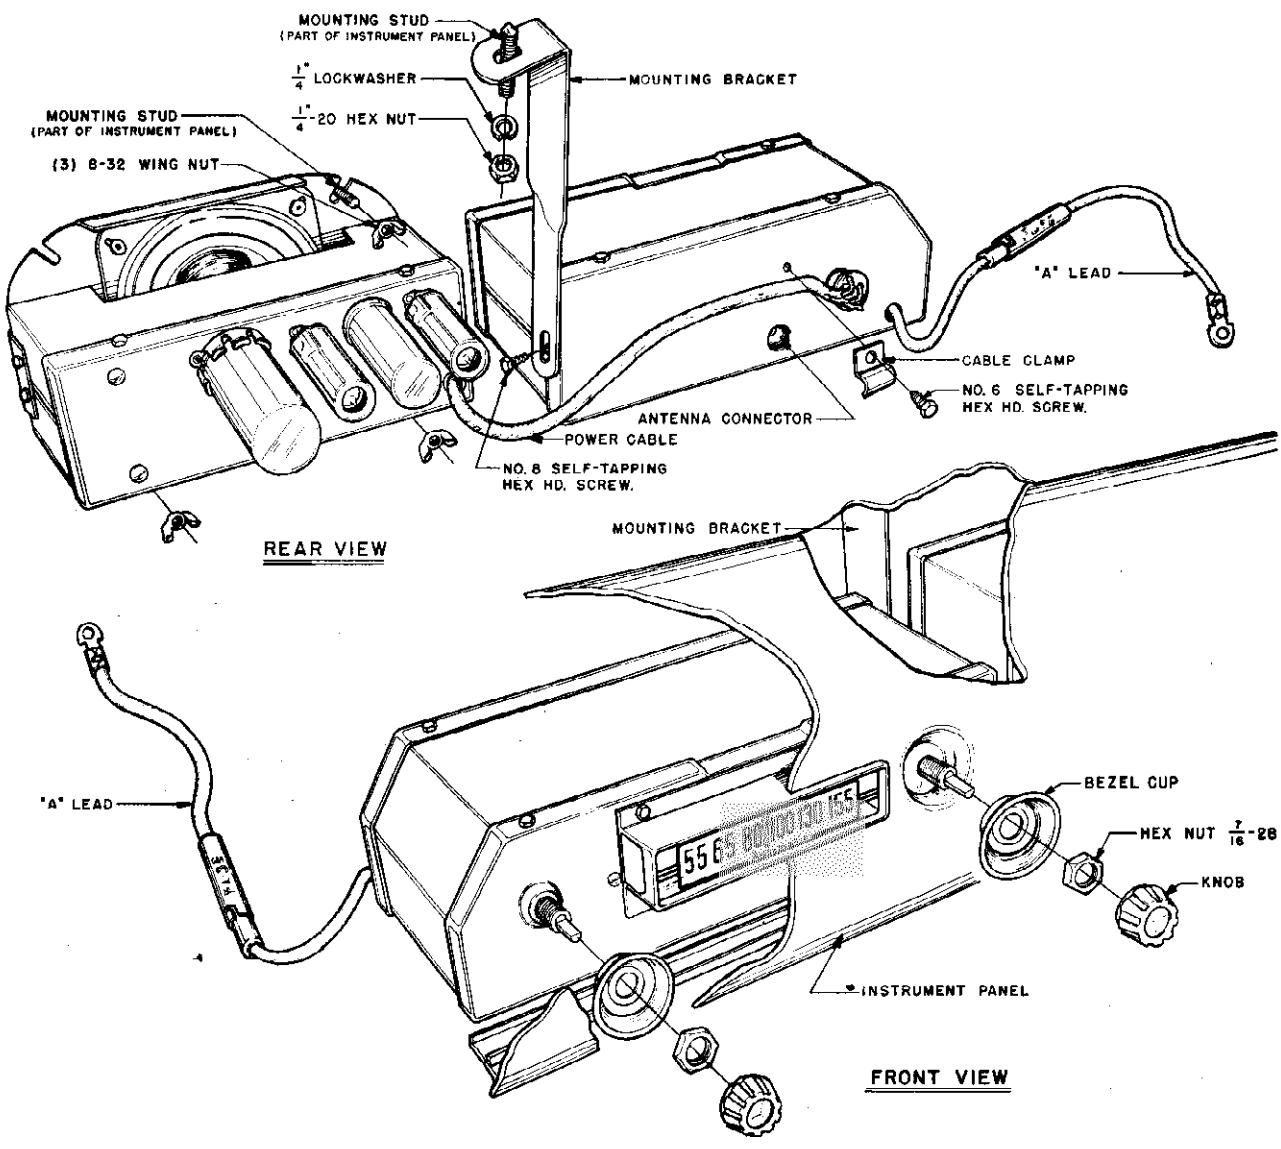

Fig. 2
9. Secure mounting bracket to side of tuning unit with hex head No. 8 self tapping screw, as shown in Fig. 2.
10. Place speaker and power pack unit over three threaded stud bolts behind the instrument panel. (Position power pack unit so that power cable is located near the tuning unit.) See Fig. 2.
(See detail assembly drawing FIG. 2)